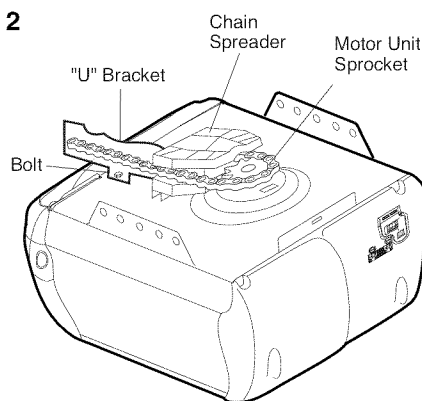

Figure 3
5. Thread the inner nut and lock washer onto the trolley threaded shaft (Figure 3).